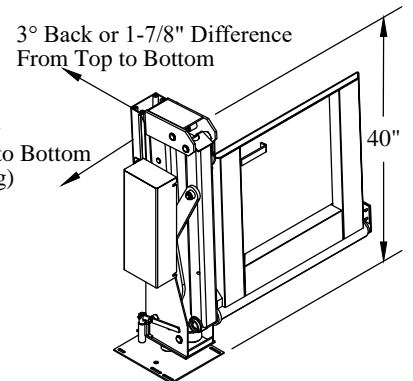
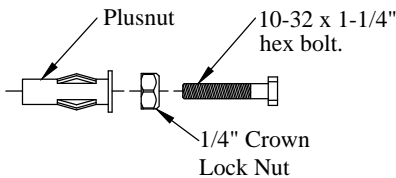

Figure 10: Liftgate properly tipped.
Figure 11: Plusnut Parts.
5. **Position** the liftgate so it is tipped 3 degrees back and 1 degree to the left (Figure 10).
8. **Locate and Drill** eight (8) 5/16" holes into the rear door header, using the top angle bracket as a guide. Choose eight (8) of the angle bracket holes without obstructions.
9. **Assemble** the Plusnut with the 1/4" crown lock nut and 10-32 x 1-1/4" hex bolt (Figure 11)